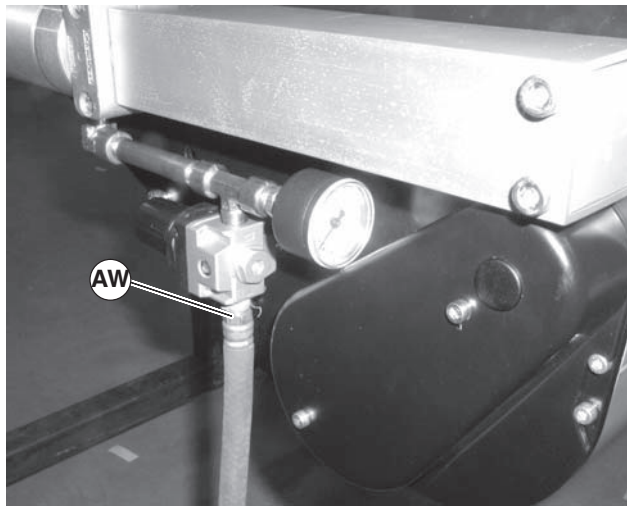

Figure 104
1. Remove air supply (Figure 104, item AW) from center drive module.